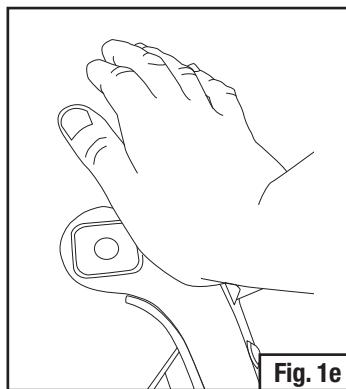

Fig. 1e
- If replacing visor frame or welding knob and pivot kit or new installation on an existing helmet, remove post from visor frame by placing the frame on the edge of a table, resting on the post (hole facing towards you), and press down forcefully on the visor frame with heel of hand (Fig. 1e).